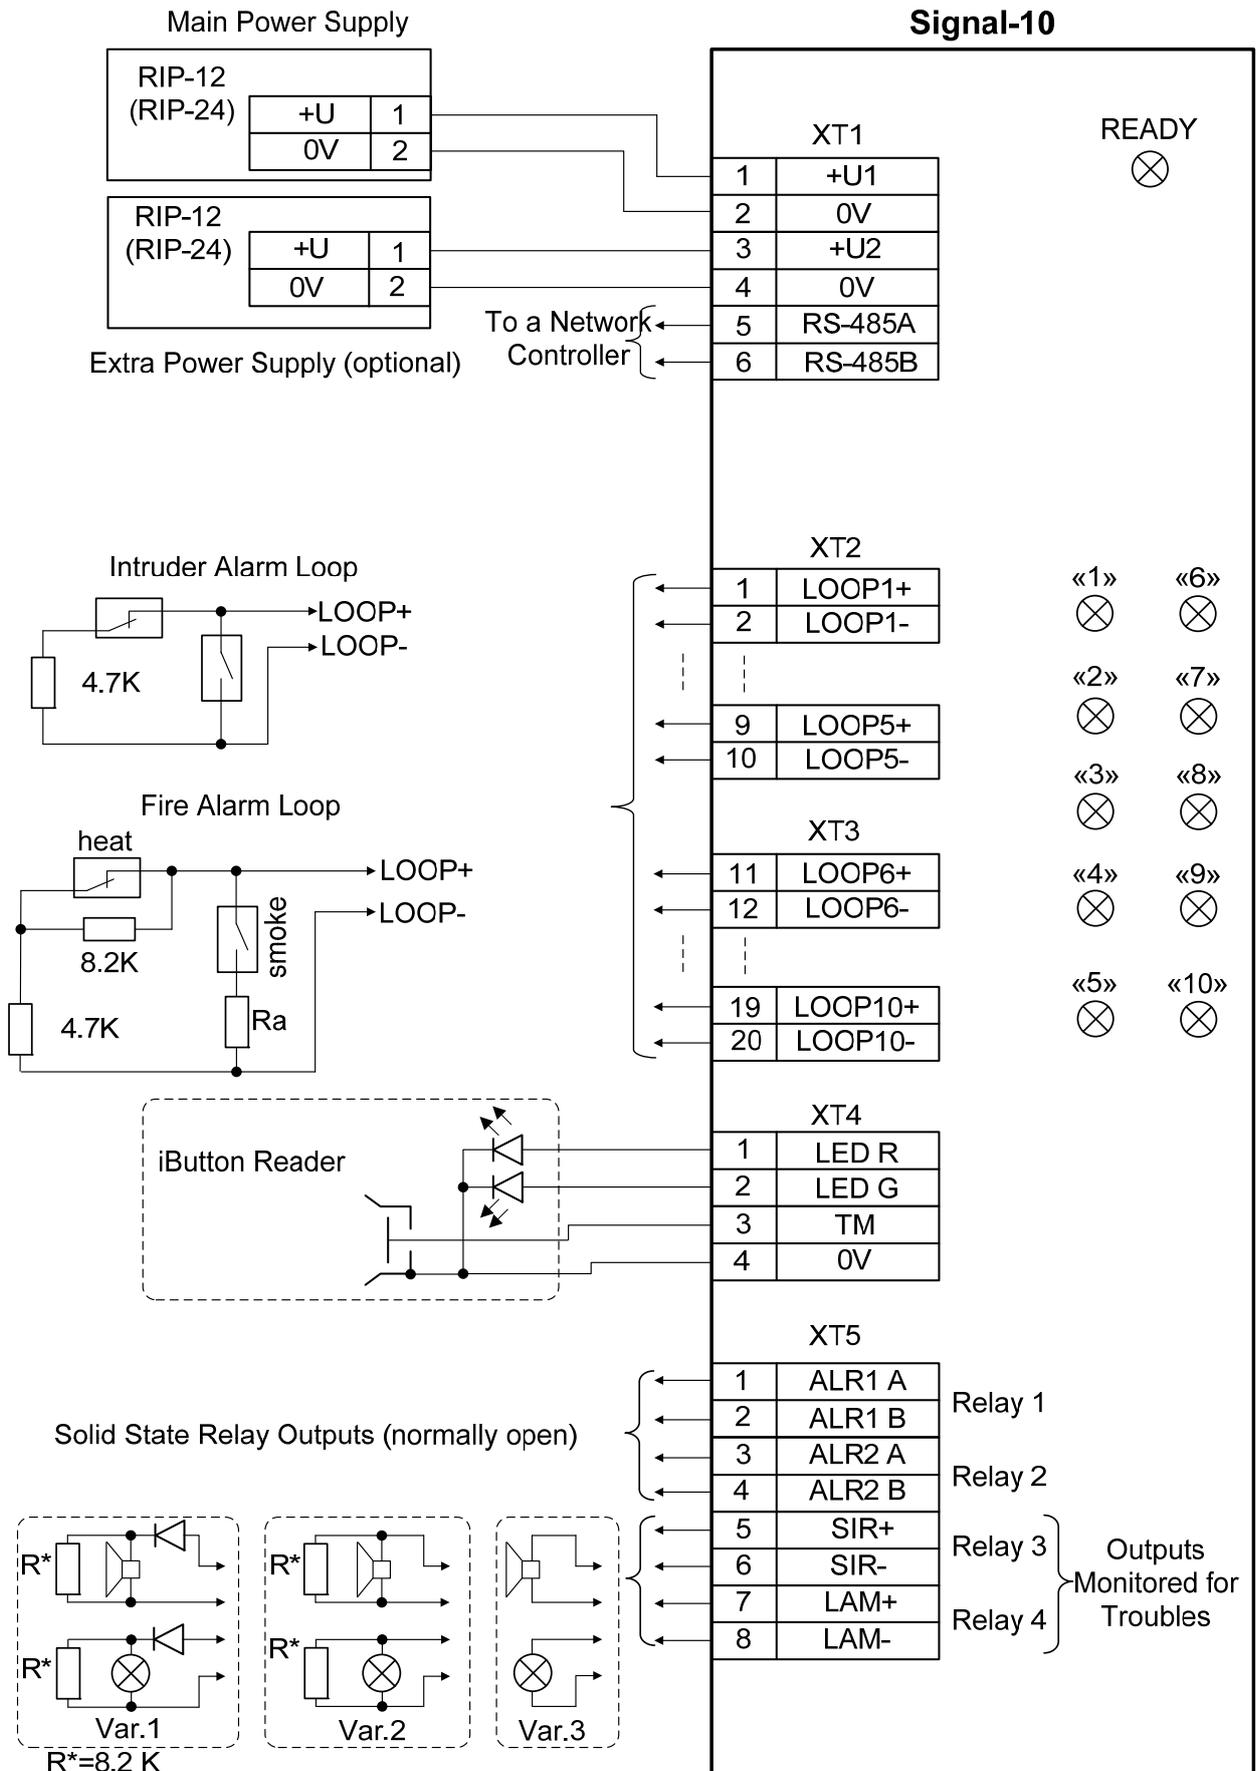

Figure 3. Signal-10 Connection Diagram
Mount the device in accordance with the Signal-10 connection diagram shown in Figure 3.
1. Couple the device terminals RS485A and RS485B (see Figure 3) with A and B wires of RS-485 bus respectively.
2. Couple the 0V circuit of the Signal-10 device (see Figure 3) with the similar circuits of the preceding and succeeding devices in RS-485 highway (you can ignore this requirement if the devices are powered by the same power supply).
Following are some variants of connecting external devices to the SIR and LAM output terminals of the Signal-10 (see Figure 3):